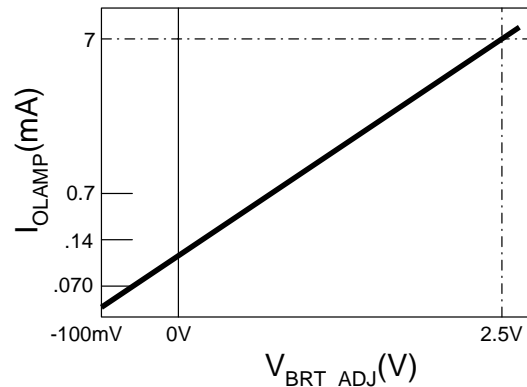

Figure 9 – Average Lamp Current vs. VBRITE Voltage (per Lamp)
1. By varying the input voltage on the brightness pin as indicated in Figure 9. Caution must be exercised when applying negative voltage to the brightness control input. Applying more than  $-300\text{mV}$  to any inverter input will cause inverter malfunction (see Absolute Maximum Ratings).